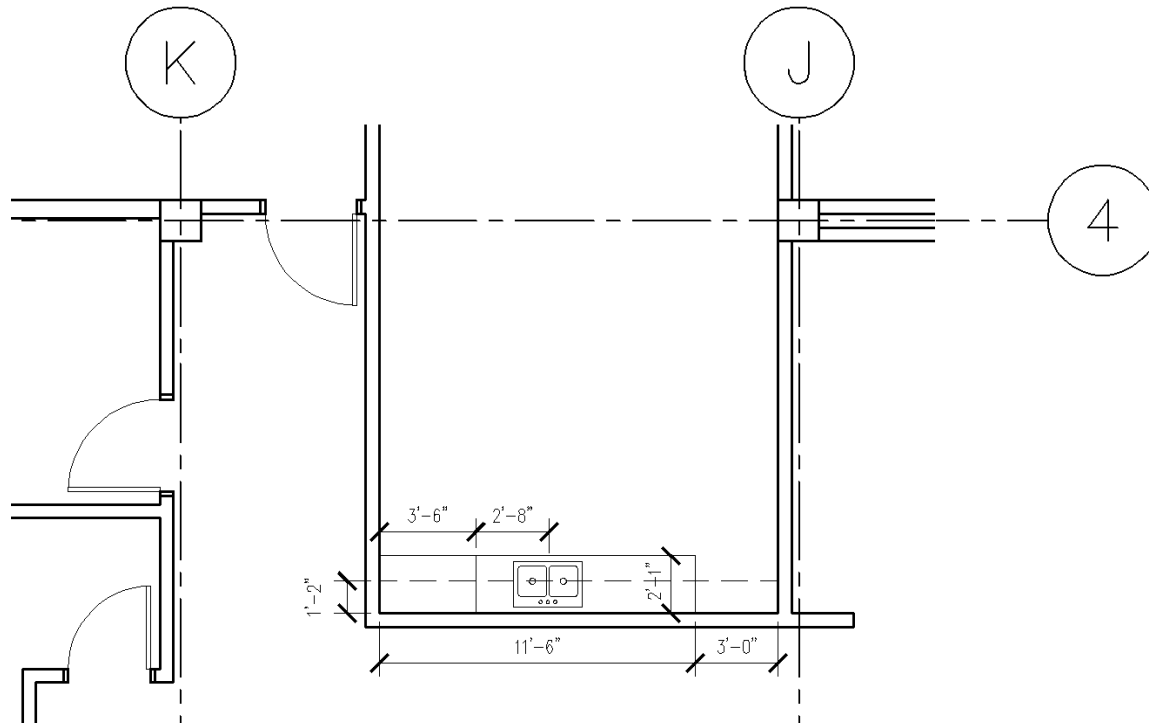

Figure 4-2.2 Drawing the break room casework
3. Draw the cabinets shown in Figure 4-2.2, *plus*: